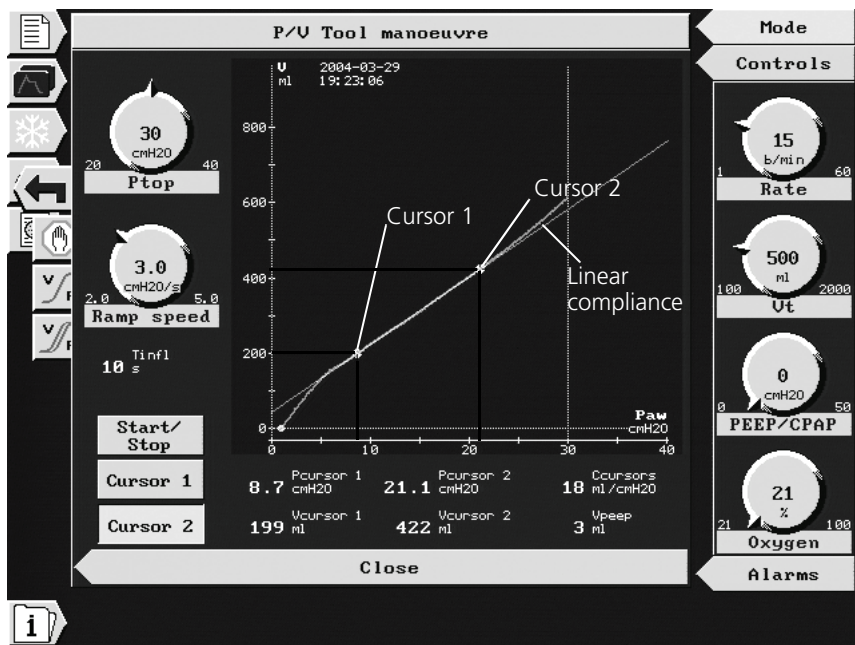

Figure 7-3. P/V Tool cursor measurement
5. When the maneuver is finished, the window remains open with the curve displayed for approximately 1 min. To examine points on the curve, select and activate **Cursor 1**; then turn the M-knob to locate a point on the curve where you suspect the low inflection point is located (Figure 7-3). Deactivate **Cursor 1**.